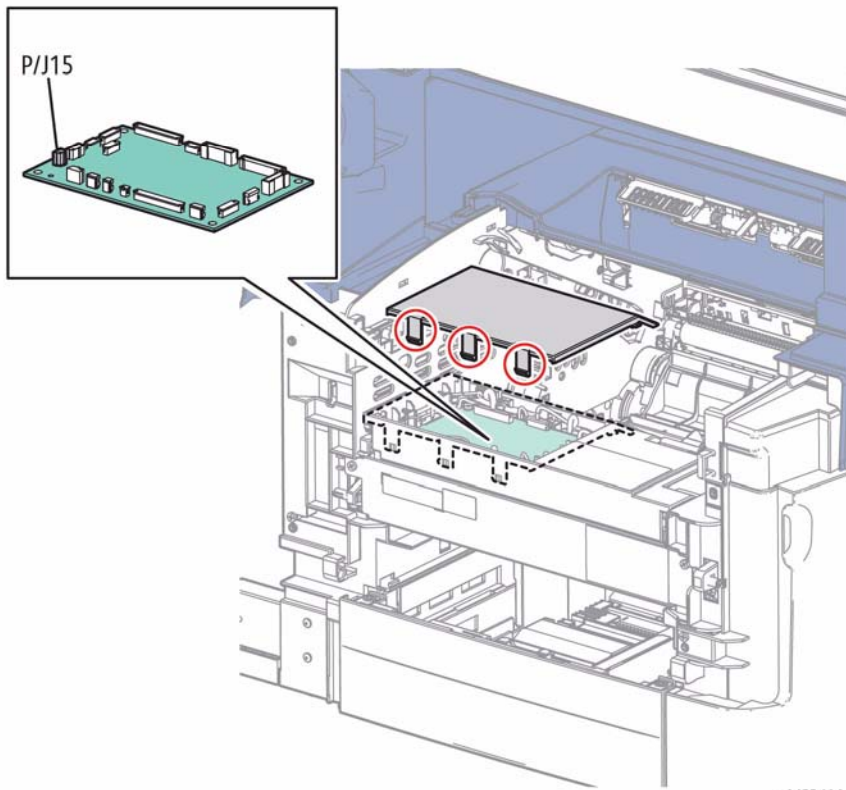

Figure 1 Disconnect the MSI Solenoid
10. Refer to Figure 1 to locate and disconnect the MSI Feed Solenoid from the MCU Board and release the solenoid harness from the guides on both sides of the chassis.